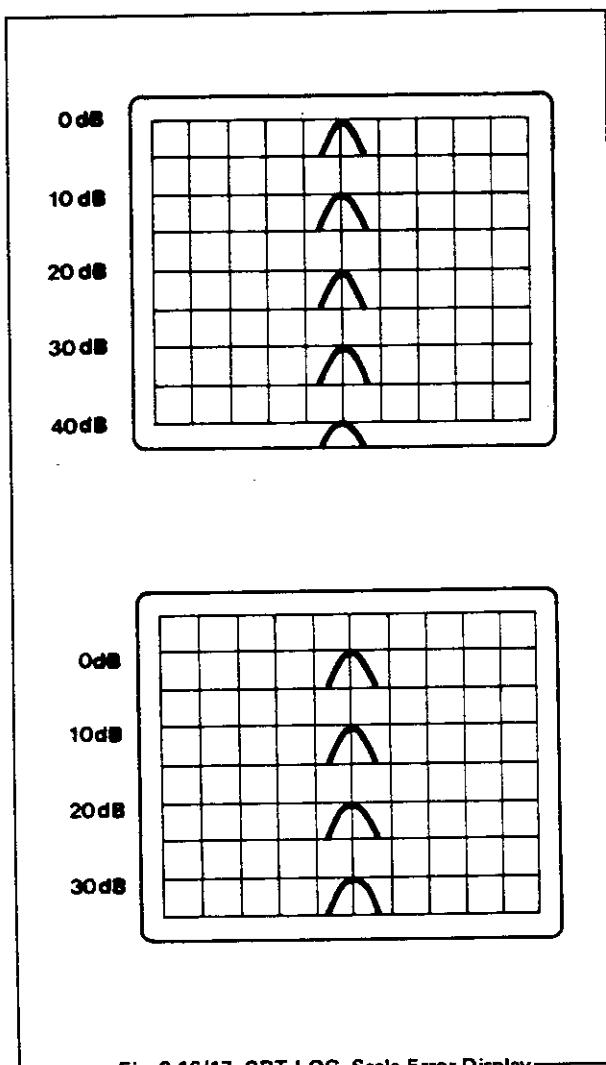

Fig. 3-16/17 CRT LOG. Scale Error Display
- (5) Check that variation of the CRT display is in  $10\text{dB} \pm 1\text{dB}$  as the external Attenuator is changed by every 10dB;  $40\text{dB} \pm 1.5\text{dB}$  for the Attenuator change of 40dB; and  $80\text{dB} \pm 2\text{dB}$  for 80dB.
- (6) Return the external Attenuator to 0dB and IF GAIN to 10dB respectively; and set 10dB/DIV., 5dB/DIV., LINEAR to 5dB/DIV.
- (7) Adjust V. REF. located on the left side of the instrument so that signal peak corresponds to the horizontal top line on the CRT.
- (8) Check that the level error of the signal peak is within 0.2 divisions when the external Attenuator is switched from 0dB to 40dB in 10dB sequence. [Fig. 3-16].